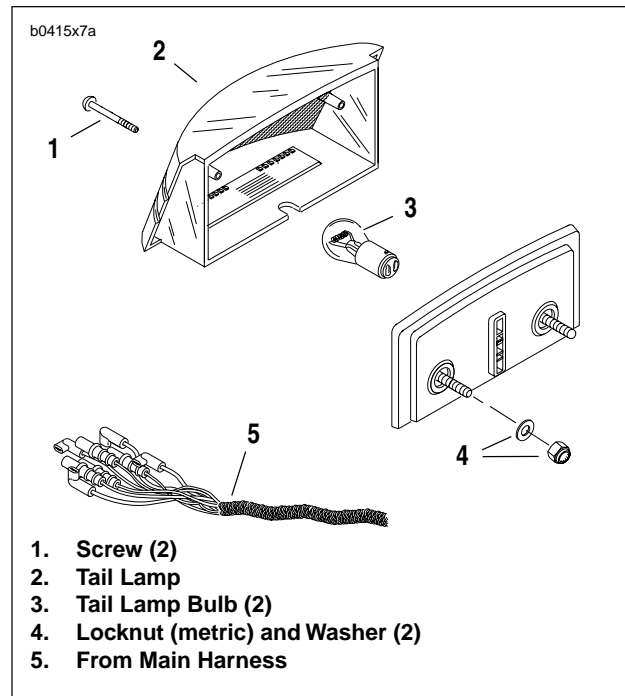
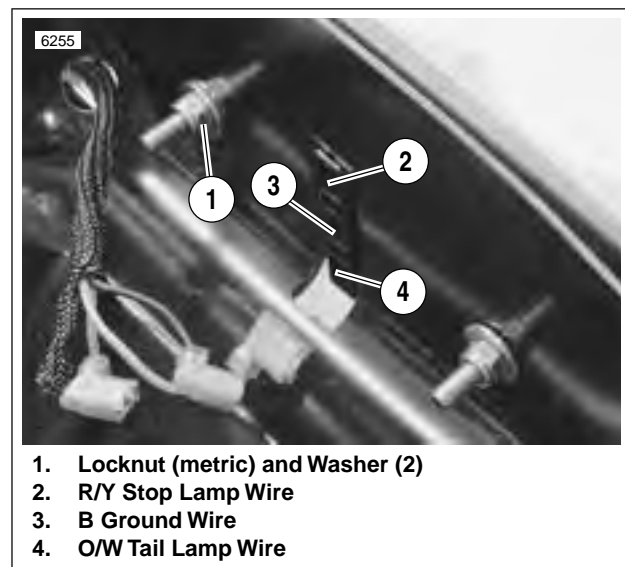

Figure 7-40. Tail Lamp
Figure 7-41. Tail Lamp Wiring
1. See Figure 7-40. Remove two screws (1) to detach tail lamp lens.
2. If necessary, remove tail lamp bulbs (3). Push bulbs inward and turn counterclockwise to remove.
4. See Figure 7-41. Disconnect the three tail lamp wires (2, 3 and 4).
5. Remove two locknuts (metric) and washers (1).
1. See Figure 7-41. Attach tail lamp mount to glove box with two locknuts (metric) and washers (1).
3. See Figure 7-40. If removed, install tail lamp bulbs (3). Push bulb in and turn clockwise to install.
5. Install tail lamp lens with two screws (1).